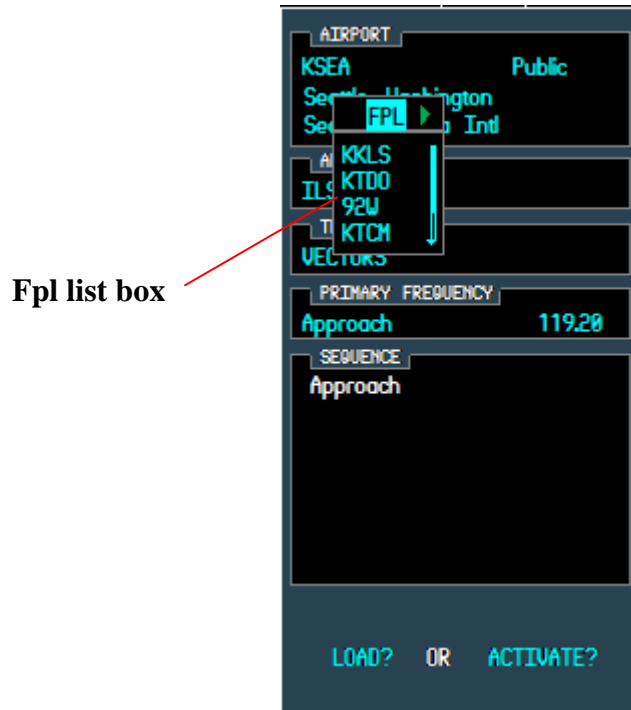

Figure 8.10
- 3.1 click on the left small FMS knob to display a popup box listing the WPTs of the FPL (Figure 8.10).